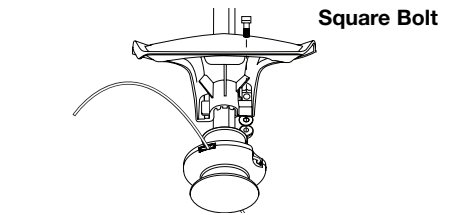

Fig. 3
3. Put the washer on the bolt, then screw the wing nut onto the bolt and tighten. Figure 3 shows the installation process from underneath the unit.